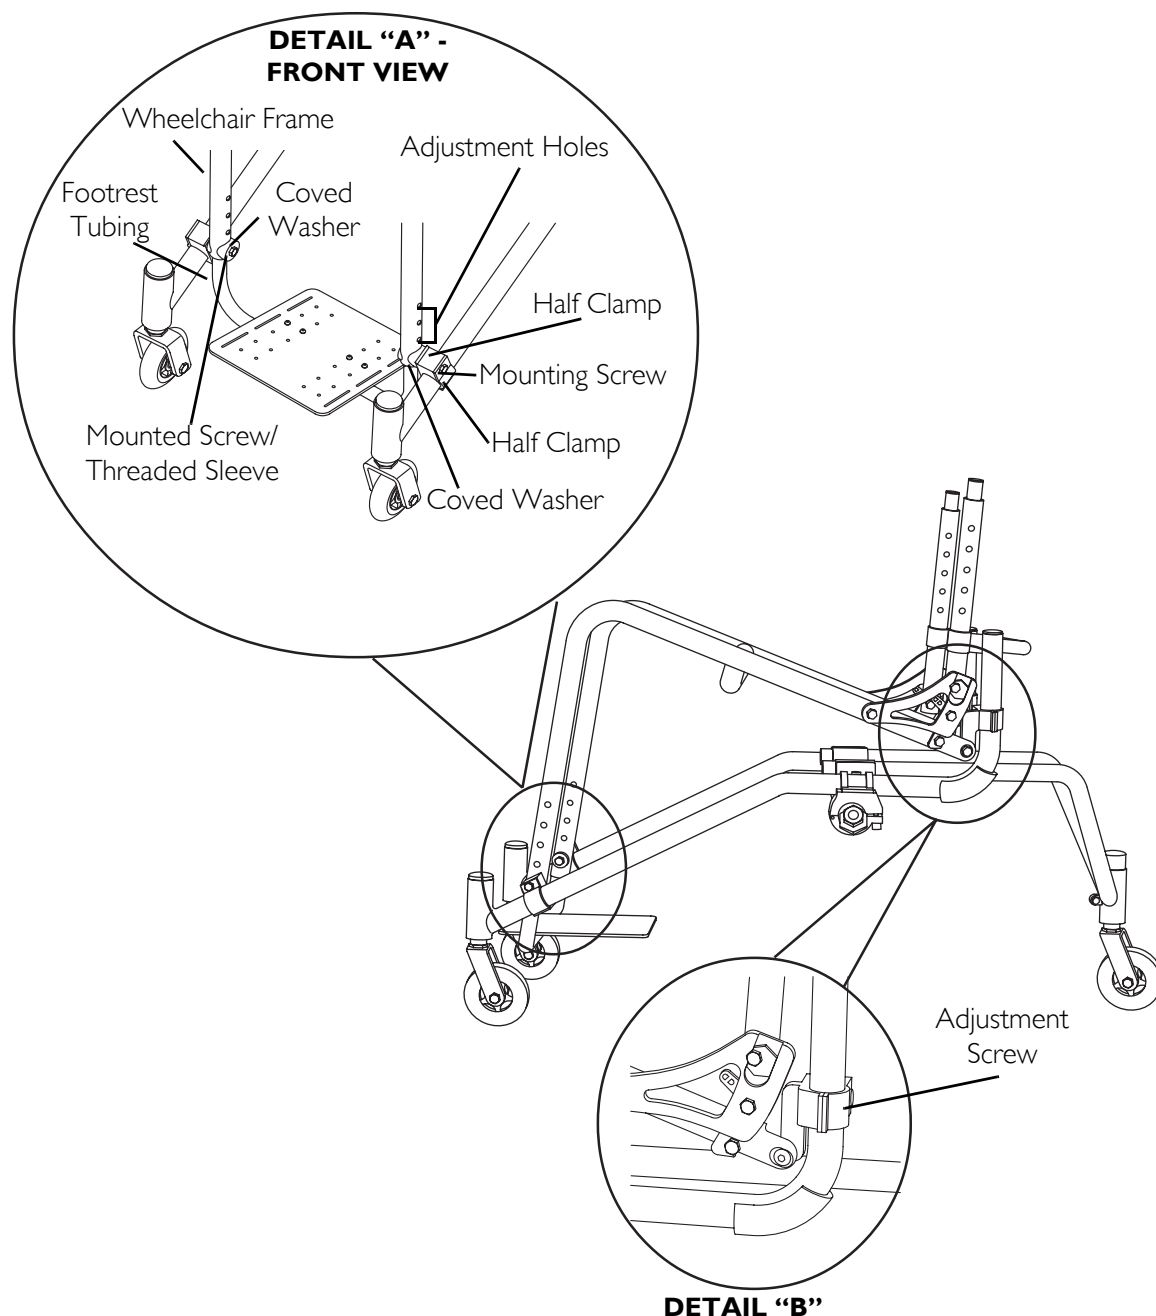

FIGURE 5.3 Transformer Seat Height Adjustment
NOTE: For this procedure, refer to FIGURE 5.3
1. Note the order of the mounting screw, coved washers, spacer, half clamps and mounting screw/threaded sleeve and their position on the wheelchair frame and footrest tubing. Refer to DETAIL "A" in FIGURE 5.3.
1. Loosen the two (2) mounting screws on both sides of the front of the wheelchair. Refer to DETAIL "A" in FIGURE 5.3.
2. Loosen the four (4) adjustment screws on both sides of the rear of the wheelchair. Refer to DETAIL "B" in FIGURE 5.3.
4. Securely tighten the four (4) adjustment screws at the rear of the wheelchair and the two (2) mounting screws at the front of the wheelchair.